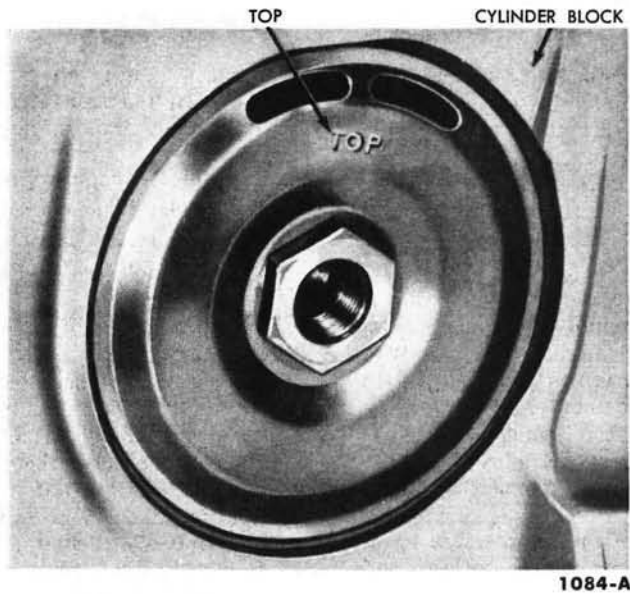

FIG. 49—Anti-Drain Back Diaphragm Position
1. Make sure the two elongated holes in the oil filter anti-drain back diaphragm are in the up position (Fig. 49).